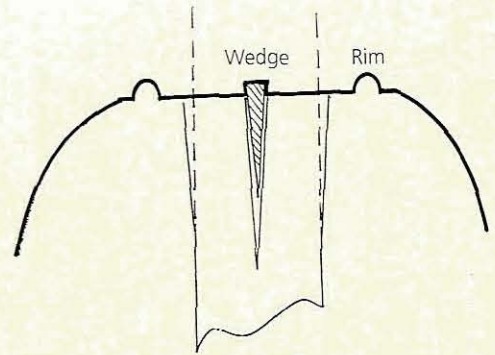

Fig 1.14 If the wedge is left proud, it can be driven further in if the handle shrinks; the mallet still sits upright on the bench, thanks to the raised rim
- A nicety is to form a rim around the top of the mallet, leaving the wedge proud to begin with; the wedge can then be tapped in further if the handle shrinks (Fig 1.14).